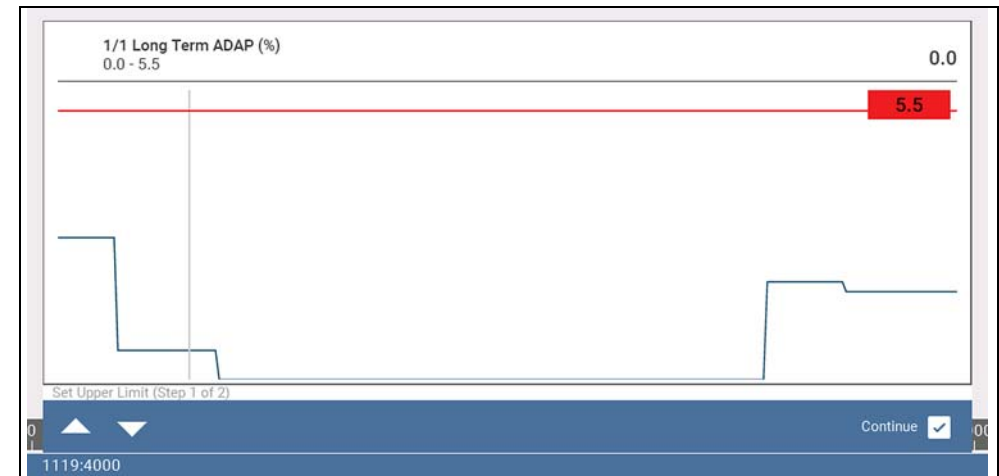

Figure 4-26
A graph of the highlighted PID and setup icons display (Figure 4-26).
The upper trigger point must be set first. A red horizontal line is displayed across the data graph (Figure 4-26) representing the upper trigger point.
4. Use the lower toolbar arrow icons (Figure 4-26), or the up ▲ and down ▼ arrow buttons to change the position of the upper trigger point.